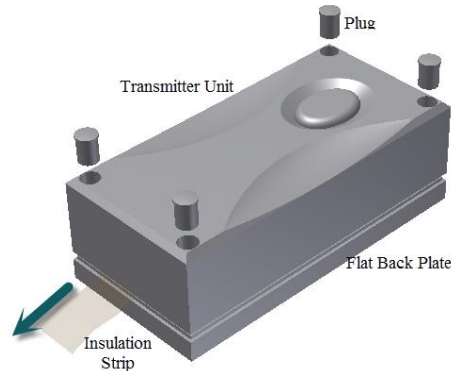

Figure 12
1. Take the transmitter unit the pre-assembled flat back plate and pull the insulation strip out of the unit to activate the transmitter battery (figure 12).